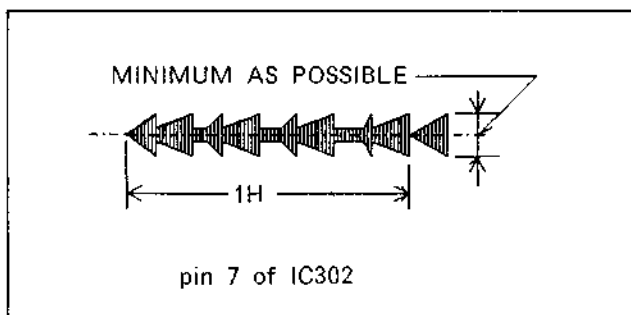

FIG. E25
3. Adjust VR801 and VR802 mutually so that the chrominance waveform is minimized as shown in FIG. E25.